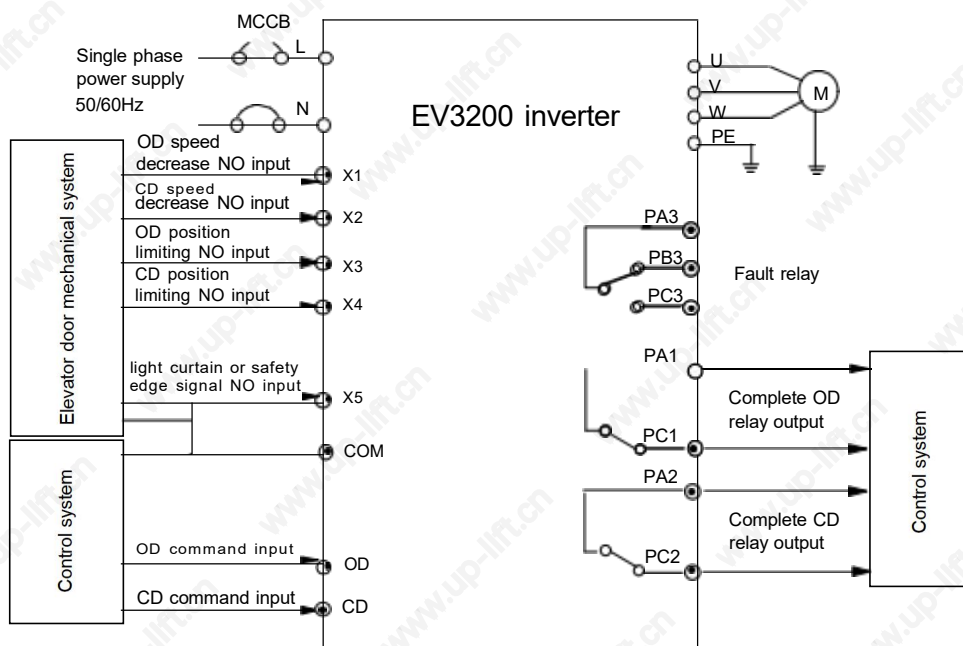

Figure 7-2 System wiring diagram for speed control
In speed control, speed decrease contacts are used to decrease the speed, and the position limiting signal is used to judge whether the door is opened or closed completely. System wiring diagram for speed control 1 is shown in Figure 7-2.
1. Wiring according to Figure 7-2.
Figure 7-2 provides the parameter settings.